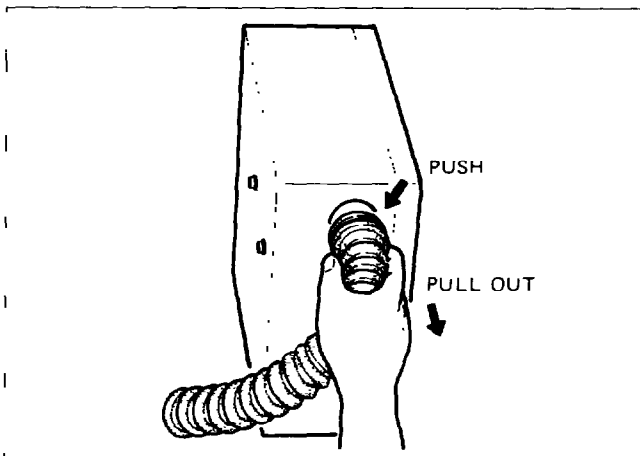

Fig. 10-7
(5) Take off the bushing from the bottom of the control box. (See Fig. 10-7.)	Press the upper end of the bushing and pull out.